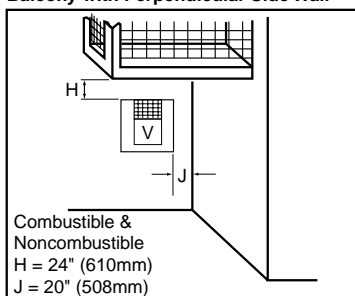

Figure 7 - Minimum Clearances for Termination Cap
- When locating termination cap, it is important to observe the minimum clearances shown in Figure 7, page 6.